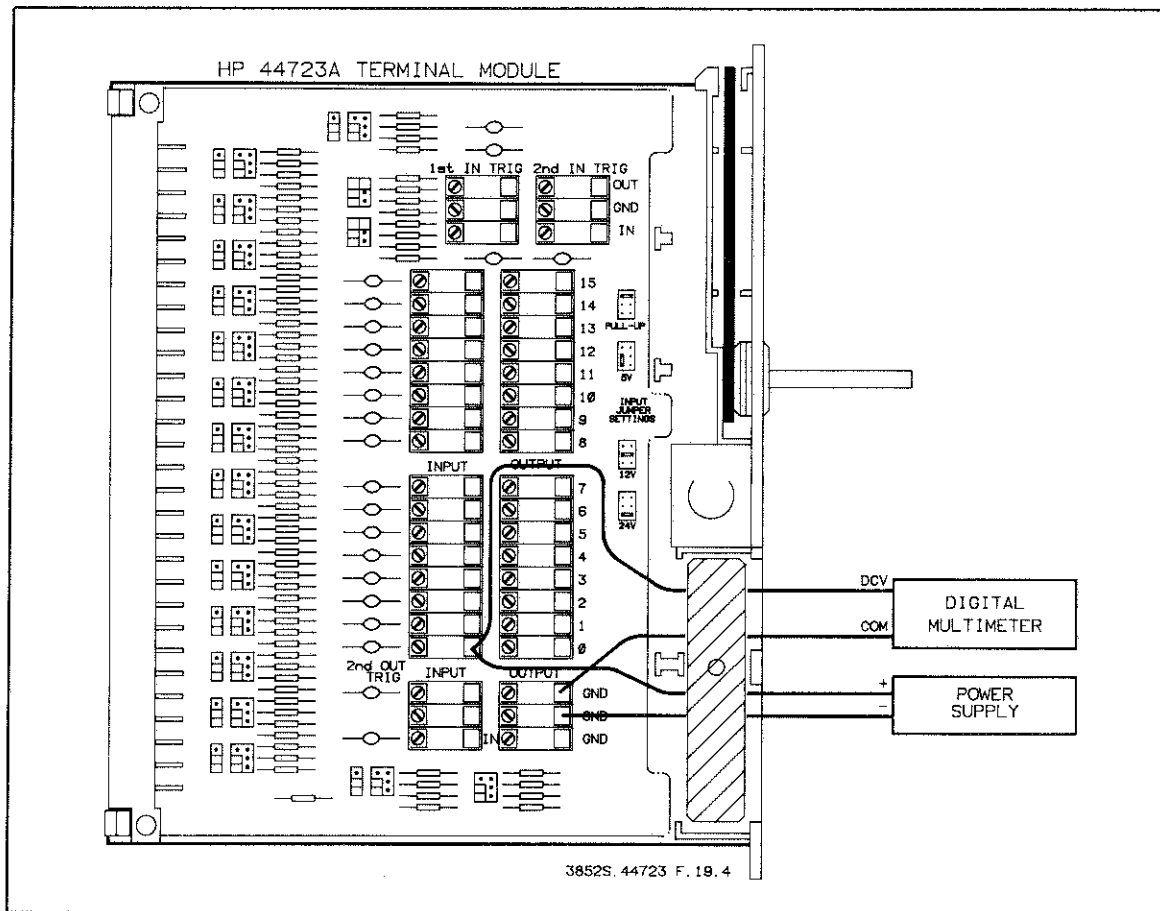

Figure 19-4 Input Voltage Test
3. Make sure the input jumpers on the terminal module are selected for +5 V TTL levels on all channels (see Figure 19-4). Also be sure to remove any connections between the output and input terminals.
6. Refer to Figure 19-4. Connect the DCV (HI) and COM (LO) inputs of a digital multimeter to the positive (+) and negative (-) outputs of the power supply.